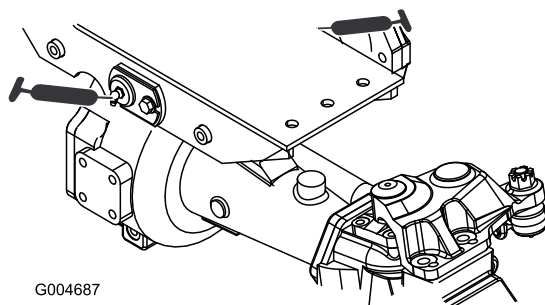

Figure 39
- Front and rear axle pivot bushings (2) (Figure 39)